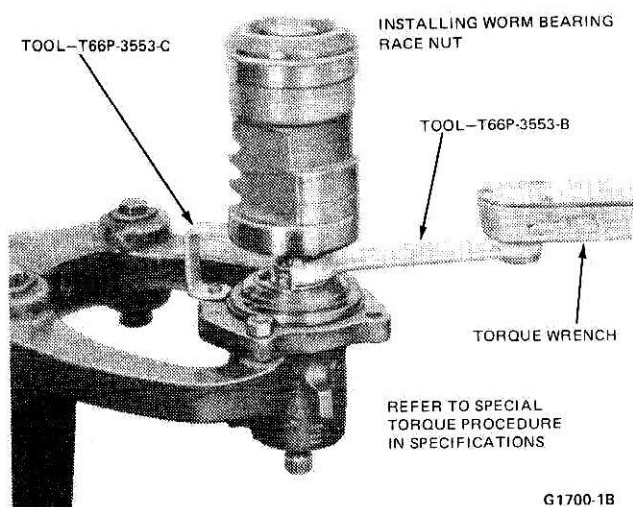

FIG. 4 Installing Worm Bearing Race Nut
4. Install the race nut in the housing and torque it to specification (Fig. 4). Refer to special torque procedure in Specifications Section.